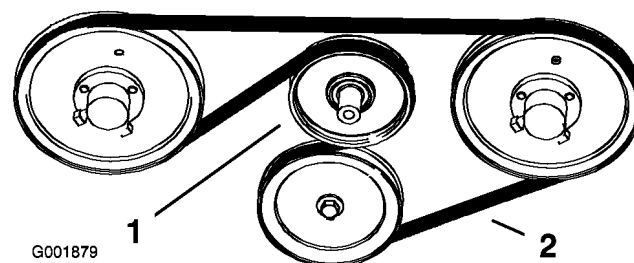

Figure 65
2. Pull the spring loaded idler down and remove the traction belt from the engine and hydro pump pulleys (Figure 65). Remove the belt between the pulleys.
3. Install the new belt around the engine and hydro pump pulleys (Figure 65).
4. Pull the spring loaded idler down and align it below the traction belt. Release the pressure on the spring loaded idler (Figure 65).